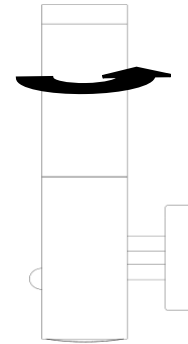

FIGURE 7
- (1) **WARNING** isolate the power supply or turn off the wall switch.
- (2) Unscrew anticlockwise and remove the polycarbonate diffuser and place carefully in a safe place so it does not get damaged.. (FIGURE 7).